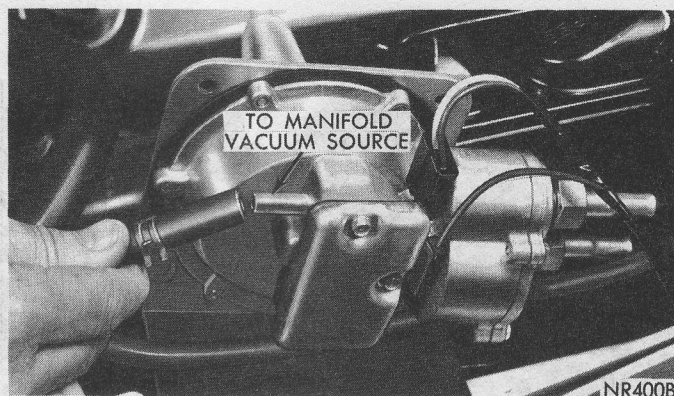

Fig. 14—Removing/Installing Servo Hose
(2) Disconnect speedometer and transmission drive cables at the servo housing.
(3) Disconnect vacuum hose at servo housing (Fig. 14) and electrical connectors.
(4) Remove servo from mounting bracket (two bolts & nuts).